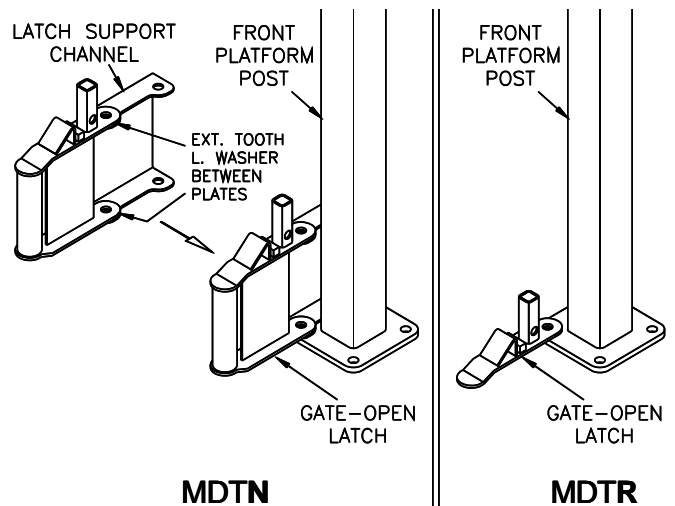

Fig 32 – Gate Assembly
- **MDTR** gate open latches fasten to the outer-rear anchor of the front platform leg. Remove the concrete anchor nut and install latch, see **Fig 32**.
- **MDTN** gate open latches fasten to both rear anchors of the front platform leg. Place a 1/2" external tooth lock washer between the top plates of the gate-open latch and the support channel and loosely attach top holes with 1/2" hardware. Remove the concrete anchor nuts. Insert a second 1/2" external tooth lock washer between the bottom plates of the gate-open latch and the support channel and place the assembly over the leg anchor bolts. Reinstall anchor nuts, **Fig 32**.